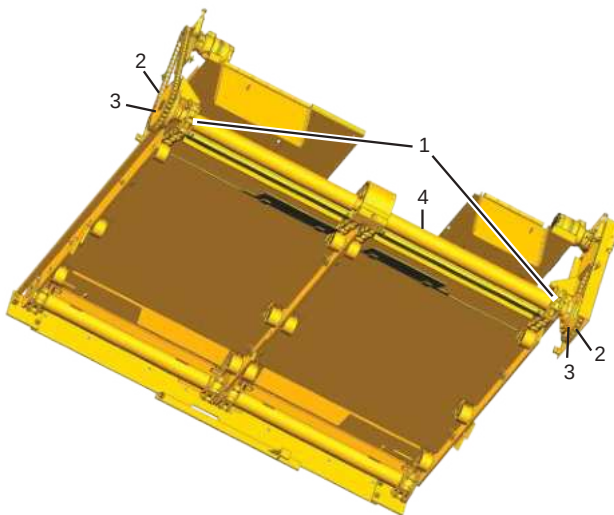

Figure 5-28. Rear Conveyor Shaft
2. Disconnect the main conveyor chains. **(Figure 5-28)**